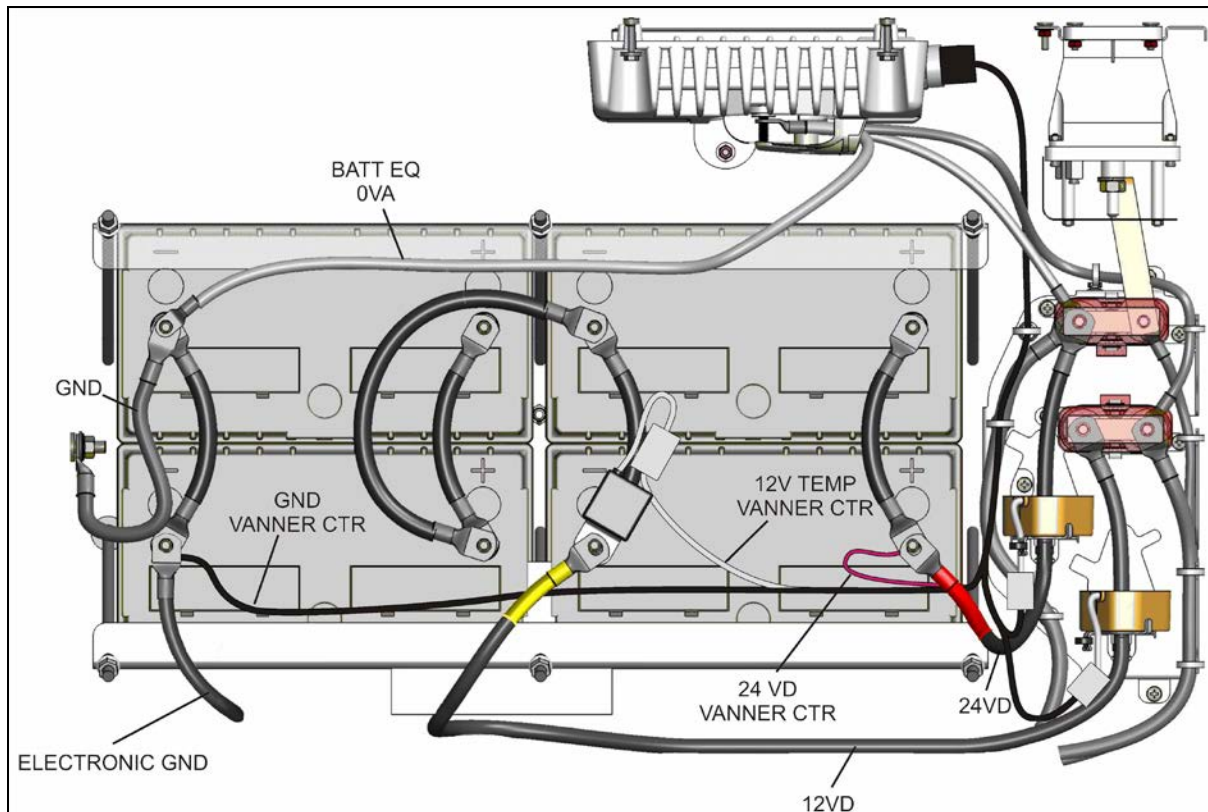

FIGURE 27: X3 SERIES AGM BATTERY CONNECTIONS
If your vehicle is equipped with PRIME energy management system, it is provided with four (4) Absorbed Glass Mat (AGM) 12-volt batteries connected in series-parallel (FIGURE 27).